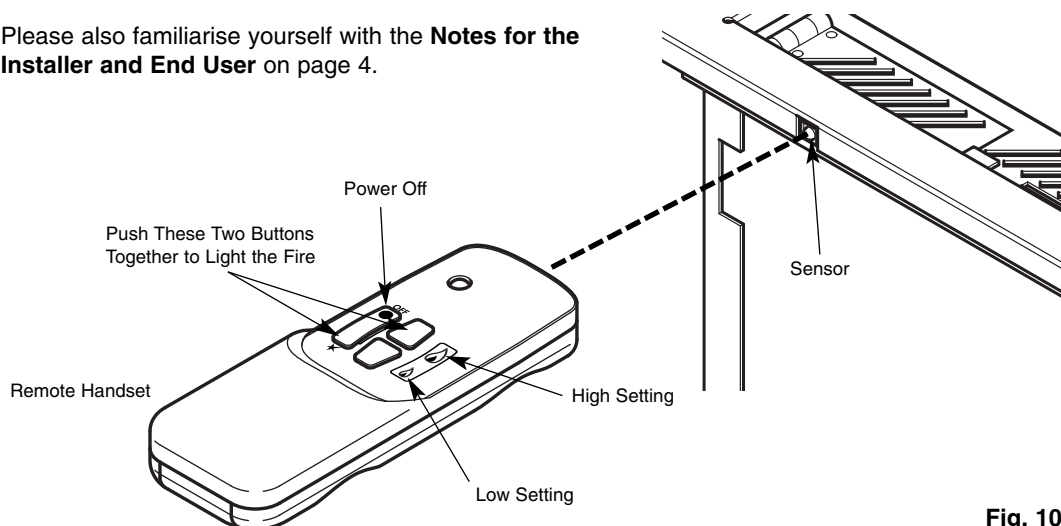

Fig. 10
1. When using the handset, ensure that it is pointed at the infrared receiver located on the front left hand side of the fire (Fig. 10).